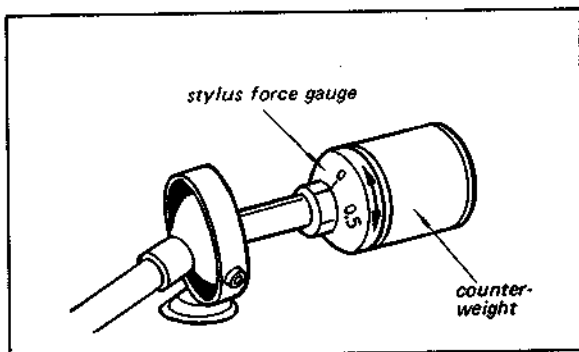

Fig. 3-9. Longitudinal balance adjustment
and set the stylus force gauge ring to "0" while holding the counterweight as shown in Fig. 3-9.
2. Horizontally balance the tonearm by turning the counterweight at the end of the tonearm, and set the stylus force gauge ring to "0" while holding the counterweight as shown in Fig. 3-9.